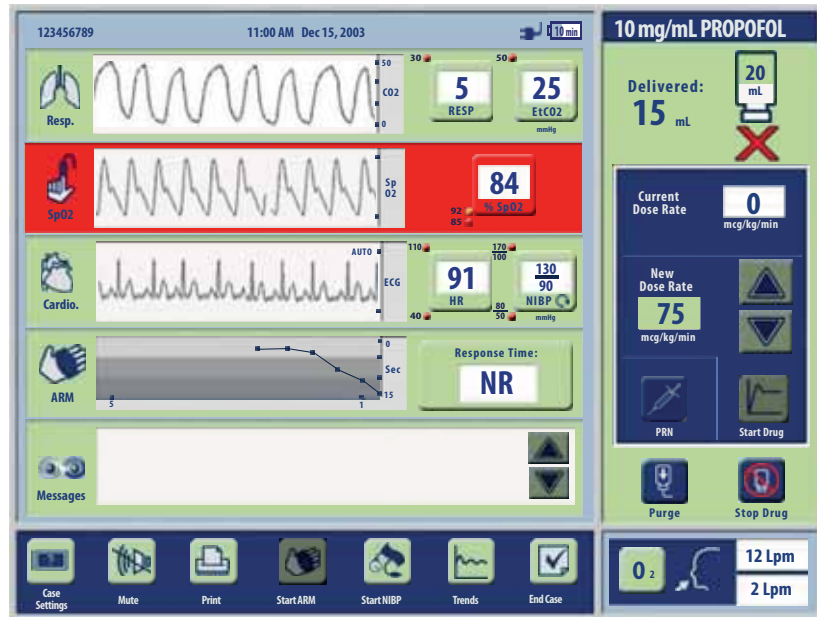

Figure 7-9 PRU Monitoring Screen During Red Alarm That Stop Drug Delivery
- The general background field and the shortcut button for the patient physiologic parameter that is causing the alarm change to red. In Figure 7-9 on page 7-9, the example shows the changes for a SpO₂ alarm.